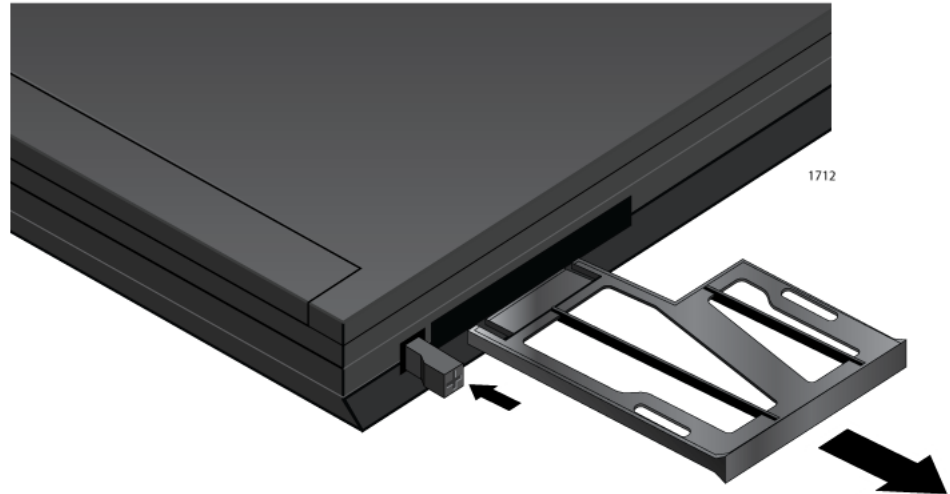

Figure 8. Removing the Plate
4. Remove the plate from the laptop. See Figure 8 on page 24.